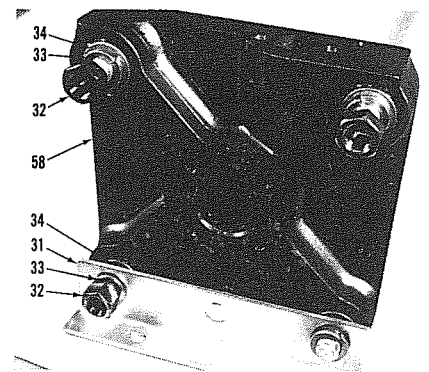

Figure 7-14, Installing nuts and washers on studs.
7.2.6 Position oil end plate (58) on its side and insert the threaded ends of the four threaded studs (89) through the four corner holes from the outside of the end plate. Assemble two of the studs in top holes with two sets of flat washers (34), lock washers (33) and nuts (32). Assemble the other two sets of flat washers, lock washers and nuts with mounting bracket (31) onto the studs in the bottom holes. See Figure 7-14.